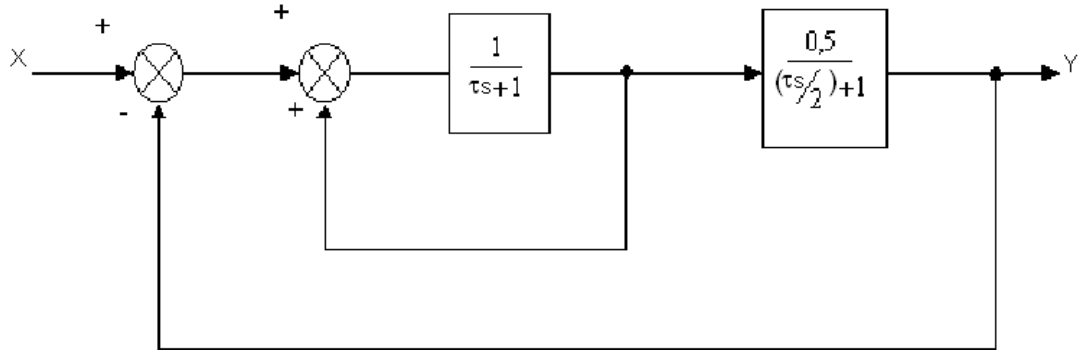

Figure 4
- Determine the transfer function  $Y(s)/X(s)$  for the block diagram shown in figure 4. [16]